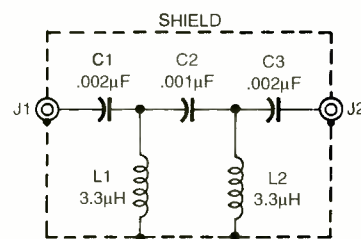

Fig. 3. Here is a schematic for a simple AM BCB high-pass filter that reduces the amplitude of standard BCB signals before they can overload your receiver.
Figure 3 shows a simple design of an AM BCB filter you can easily build. The circuit of Fig. 3 is not the most optimized filter, but it has a couple of nice features. One "feature" is that I've built and tested several of them, both on-the-air on various receivers and by sweeping them with a signal generator.
Perhaps the real reason why the circuit of Fig. 3 is so nice is that it uses very easily obtained components: 0.001- μ F and 0.002- μ F capacitors and 3.3- μ H inductors. All of these are standard values. You can obtain them from parts suppliers, such as *Digi-Key*, Tel. 800-344-4539; Web: www.digikey.com. If you want to wind your own coils, then use the powdered-iron toroid form T-50-15 (red/white paint code; suggested source is *Amidon Associates, Inc.*, Tel. 800-898-1883; Web: www.amidoncorp.com).
Fig. 4. This series of illustrations shows three recommended ways of mounting neighboring coils (used in the circuit of Fig. 3) to avoid interaction. In (A) the vertical planes of the coils are at right angles to one another. In (B) one of the coils is on its edge while the other one is horizontal. Finally in (C), one coil is down (horizontal), while the other one is on its edge with their planes perpendicular to one another.